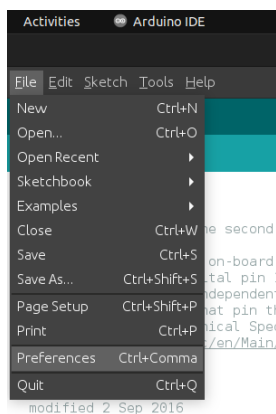
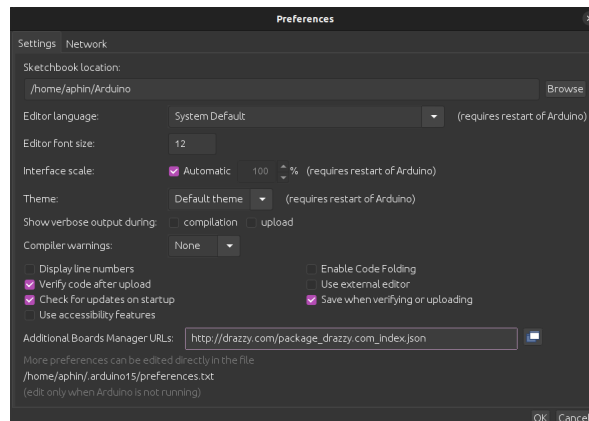

Fig.2
Fig.3
3. To program ATtiny we need to use library of “megaTinyCore” by Spence Konde on to Arduino IDE, to add use the URL “https://drazzy.com/package_drazzy.com_index.json” library in the Arduino additional library option present in “Files --> Preferences(Fig.2) --> Additional Boards Manager URLs (Fig.3)”